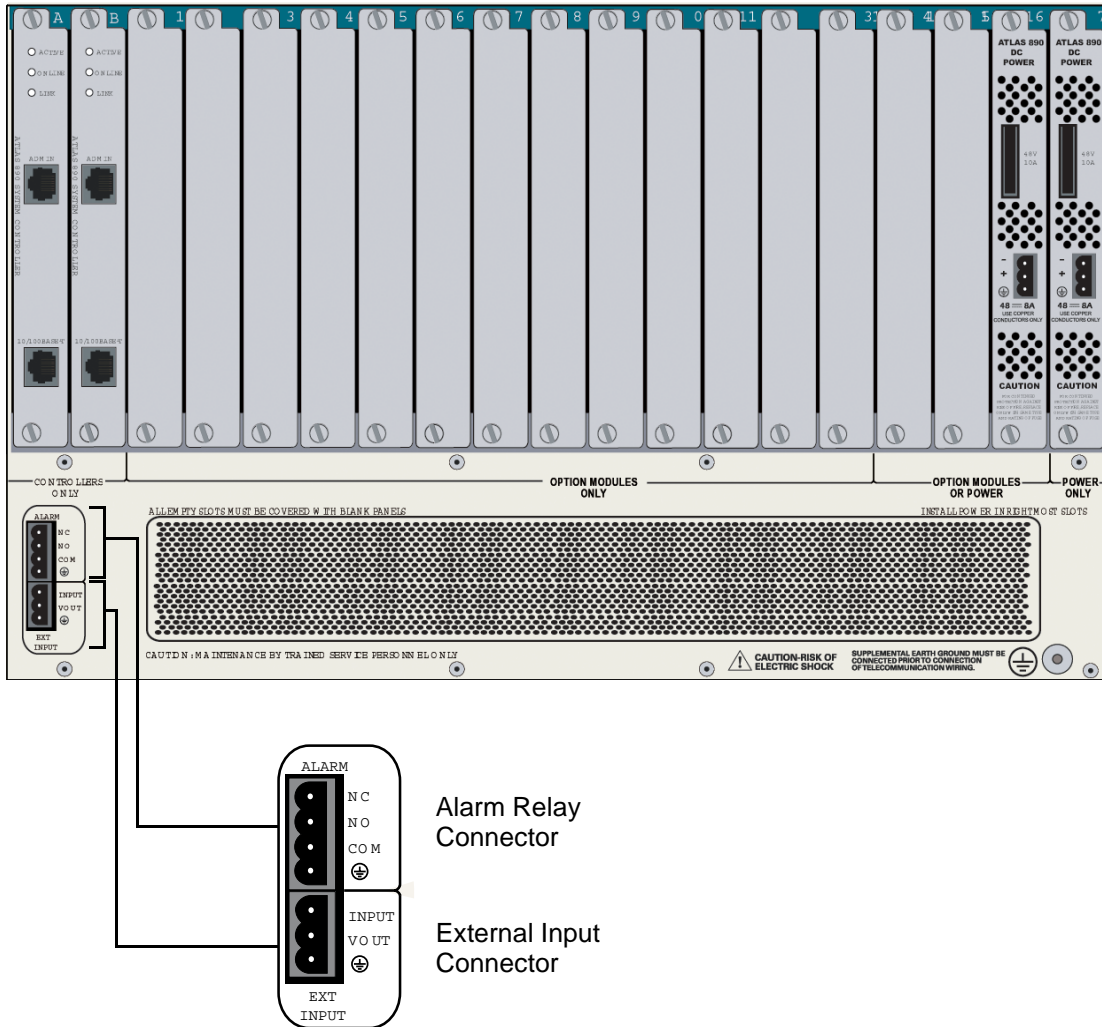

Figure 1. ATLAS 890 Rear View
1. For the alarm relay contacts labeled **ALARM** on the rear of the ATLAS 890 as shown in Figure 1, determine whether the external alarm reporting device uses normally open (NO) or normally closed (NC) relay contacts to sense an alarm condition.